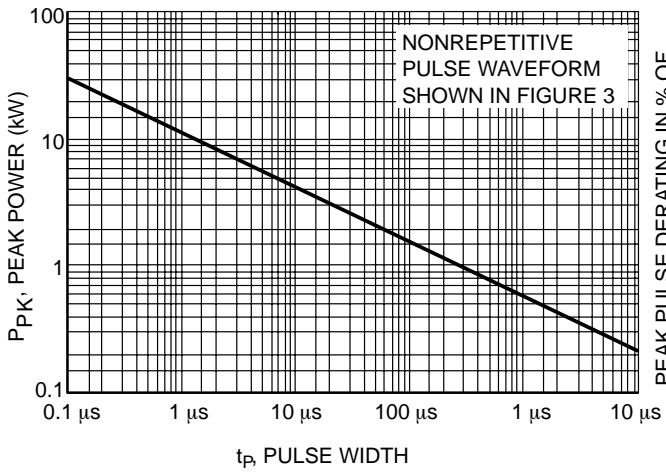
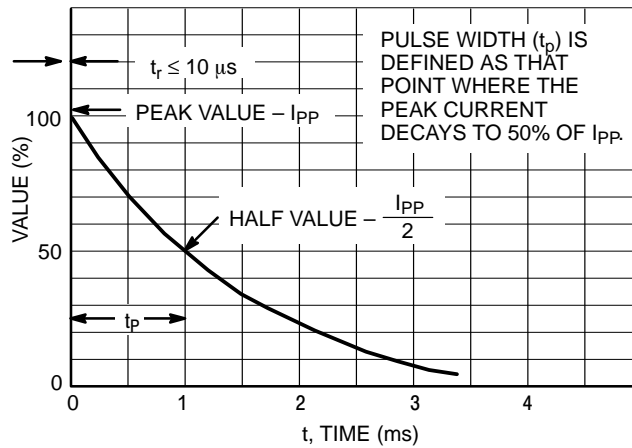
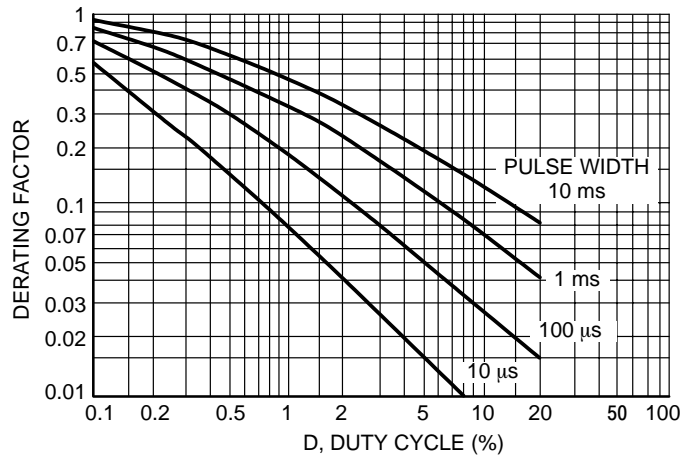

Figure 1. Pulse Rating Curve
Figure 3. Pulse Waveform
Figure 5. Typical Derating Factor for Duty Cycle
4. Surge current waveform per Figure 3 and derate per Figures 1 and 2.
The data of Figure 1 applies for non-repetitive conditions and at a lead temperature of 25°C. If the duty cycle increases, the peak power must be reduced as indicated by the curves of Figure 5. Average power must be derated as the lead or ambient temperature rises above 25°C. The average power derating curve normally given on data sheets may be normalized and used for this purpose.
At first glance the derating curves of Figure 5 appear to be in error as the 10 ms pulse has a higher derating factor than the 10 μs pulse. However, when the derating factor for a given pulse of Figure 5 is multiplied by the peak power value of Figure 1 for the same pulse, the results follow the expected trend.